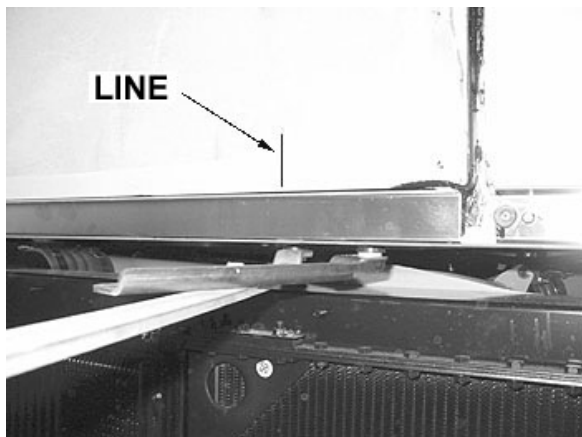

FIGURE 71: REFERENCE LINE
- Using a rubber mallet, adjust the lower part of pantograph arm in order to get  $4 \pm 1$  mm between lateral panel and engine door (Refer to Figure 71 and Figure 72).